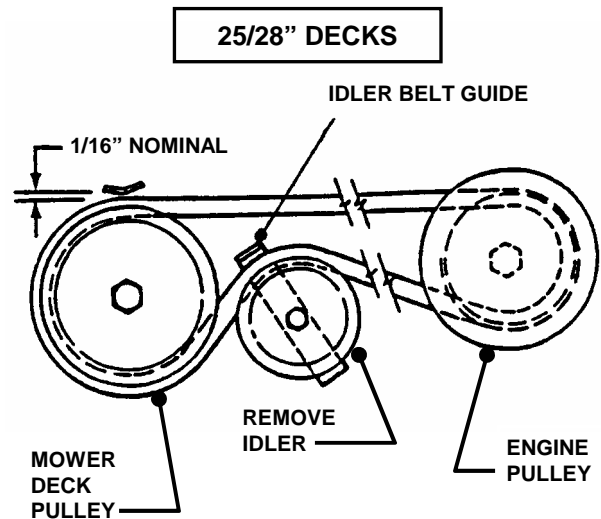

FIGURE 4.14
8. Remove idler. See Figure 4.14 and 4.15.
9. Route belt onto spindle pulley. Make sure belt is inside spindle belt guide and idler belt guide. Route belt as shown in Figure 4.14 or 4.15
11. Adjust belt guide. See Figure 4.14 or 4.15 for proper belt-to-belt guide clearances.